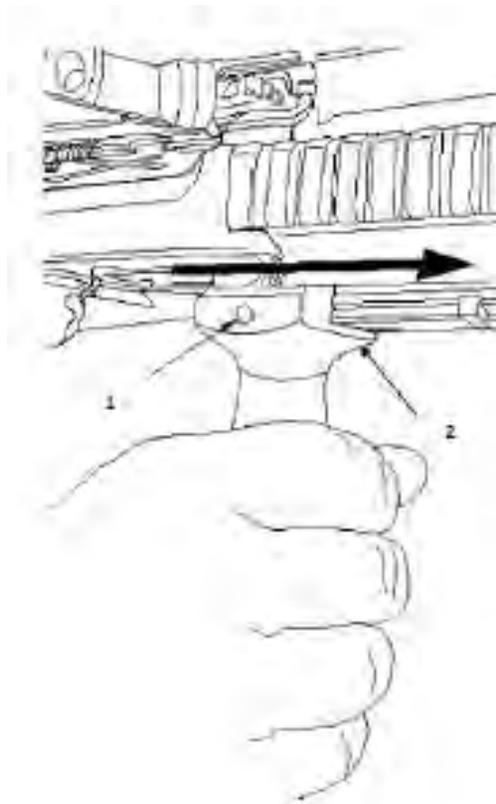

Figure 9. Hand Grip.
4. Install the forward hand grip (Figure 9, Item 2) on the bottom rail by sliding it from the rear to the front until the locking lug of the forward hand grip (Figure 9, Item 2) lines up with a slot on the rail adapter. View rail slot through hole in forward hand grip (Figure 9, Item 1).